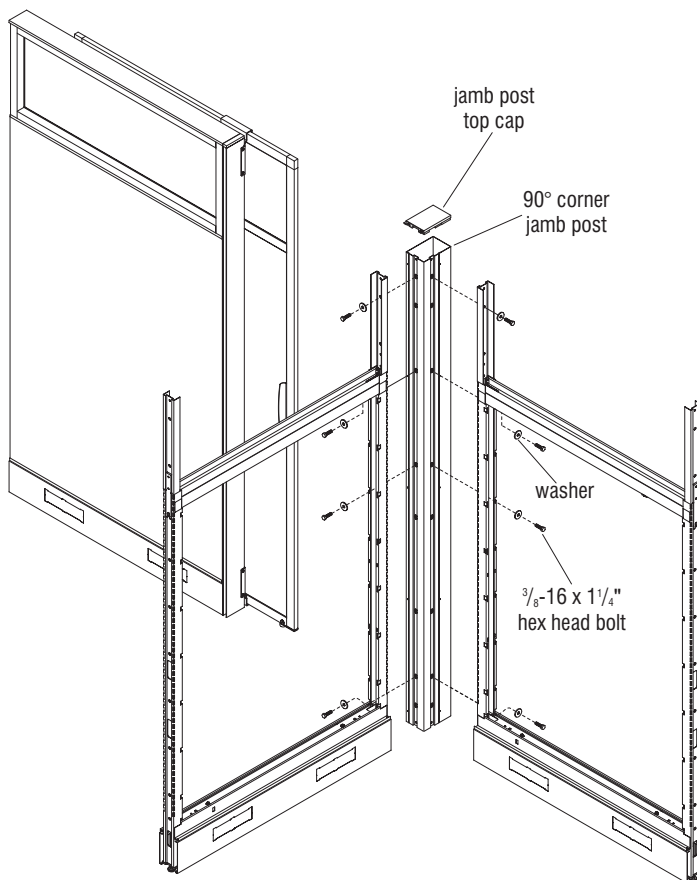

Figure 13
1. Position the 90° corner jamb post such that approximately 1" of the post extends into the walkway as illustrated. Fasten the jamb post to both panel frames using the  $\frac{3}{8}$ -16 x  $1\frac{1}{4}$ " hex head bolts and washers. Install the jamb post top cap (Figure 13).